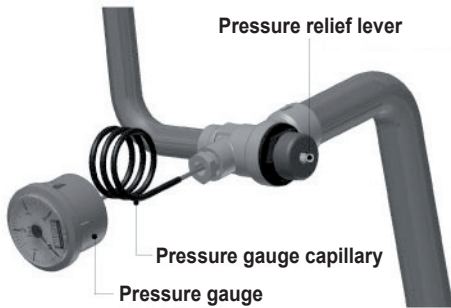

Fig. 7.2
- Check the operation of the pressure relief valve (sealed system only) (Fig. 7.2) by lifting the lever or turning the knob on the valve gently to ease the valve of its seat.